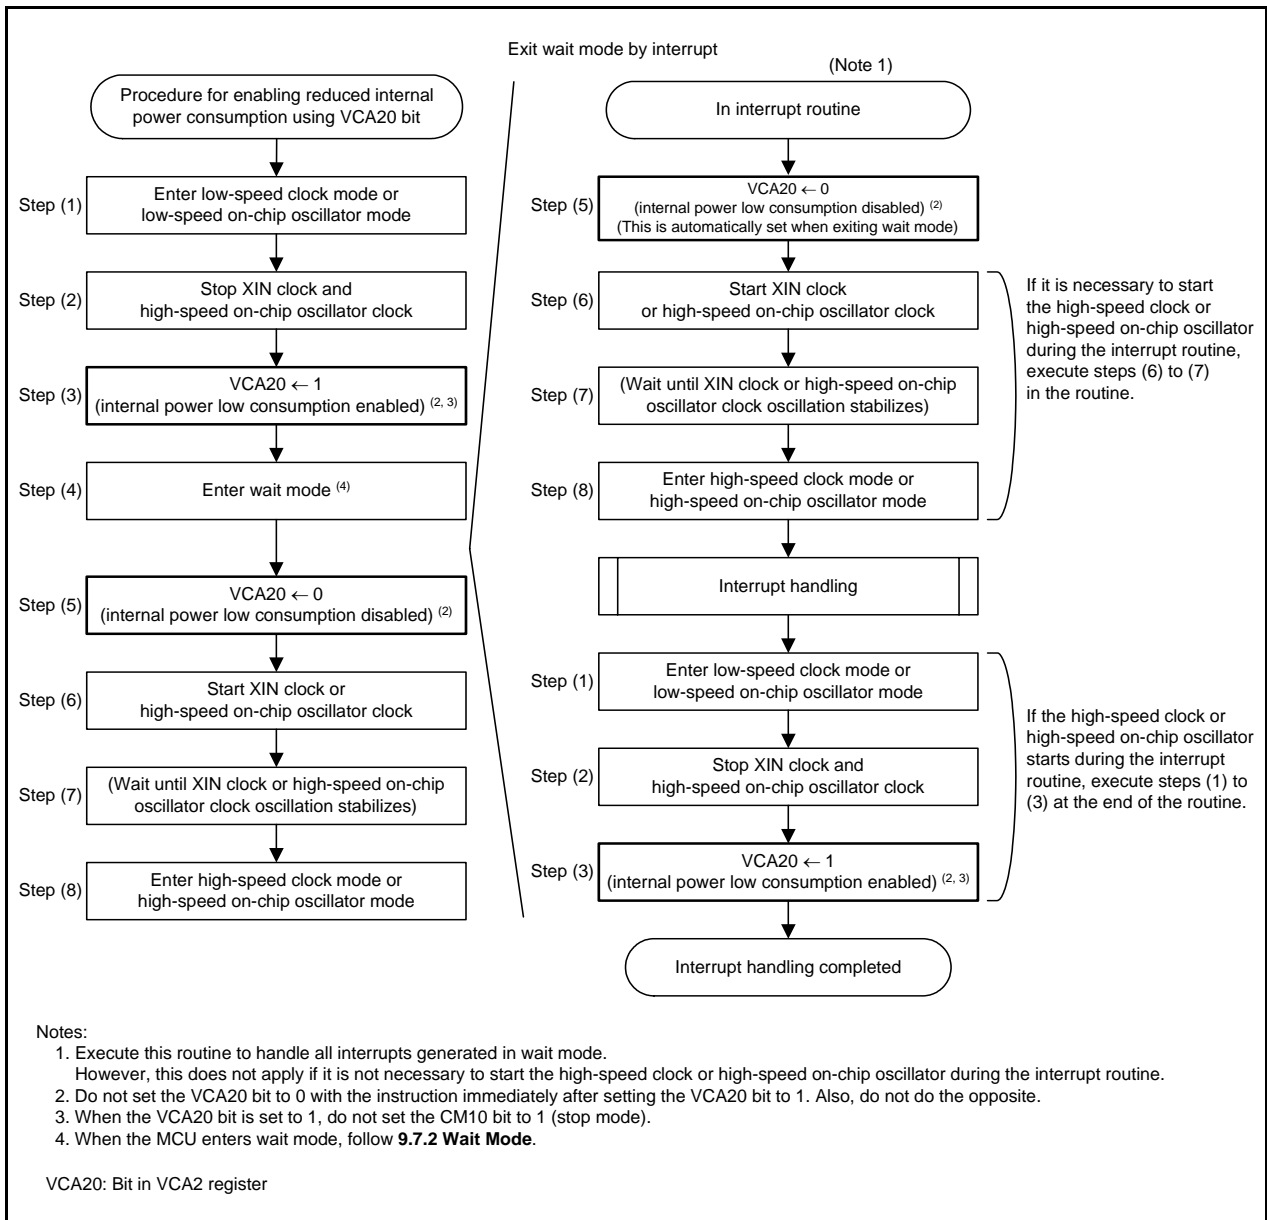

Figure 9.4 Procedure for Reducing Internal Power Consumption Using VCA20 bit
1. Use the VCA20 bit only when the MCU enters wait mode. To set the VCA20 bit, follow the procedure shown in **Figure 9.4 Procedure for Reducing Internal Power Consumption Using VCA20 bit**.